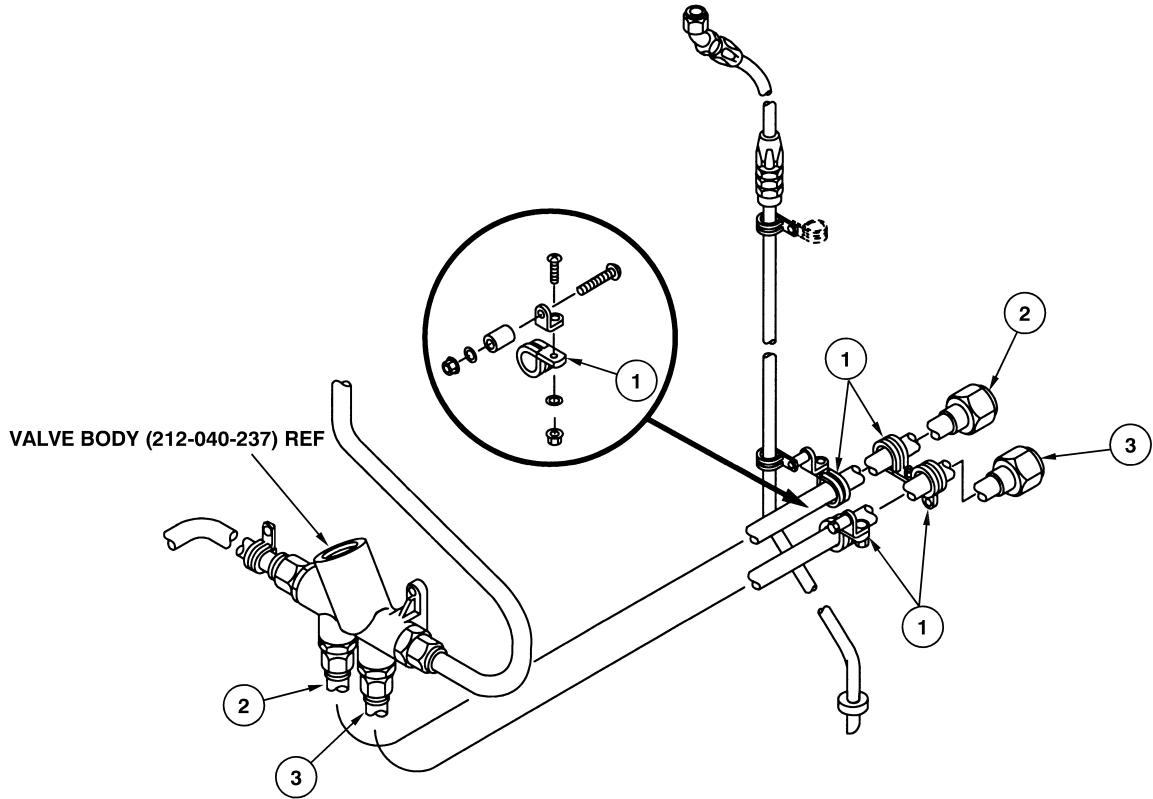

Figure 1. Transmission Oil Cooler Lines
2. Remove clamps P/N MS21919WDG (Figure 1, Items 1). Retain attaching hardware for reuse or replace with similar type as required.
6. Install the replacements clamps P/N MS21919WCG10 (Items 1) as indicated in Figure 1. Oil lines (Items 2 & 3) retained by the clamps (Items 1) must be installed without applying a bending load.